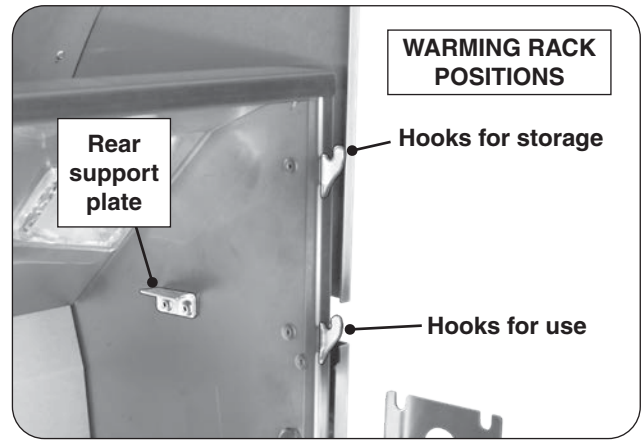
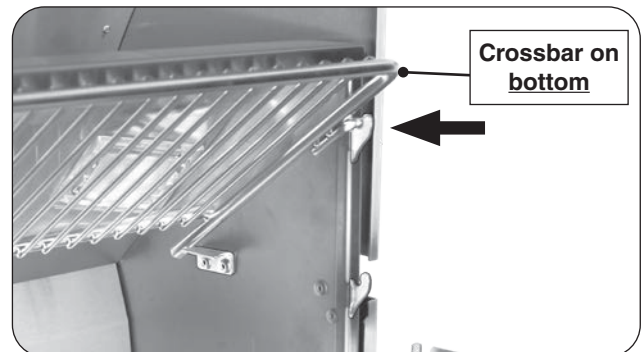

Fig. 22-1 Warming rack hooks
Fig. 22-3 Place warming rack in storage position
1. Locate the warming rack hooks and rear supports found on the upper portion of the grill oven (see Fig. 22-1).
Use the top hooks for storage (see Fig. 22-1 and Fig. 22-3).